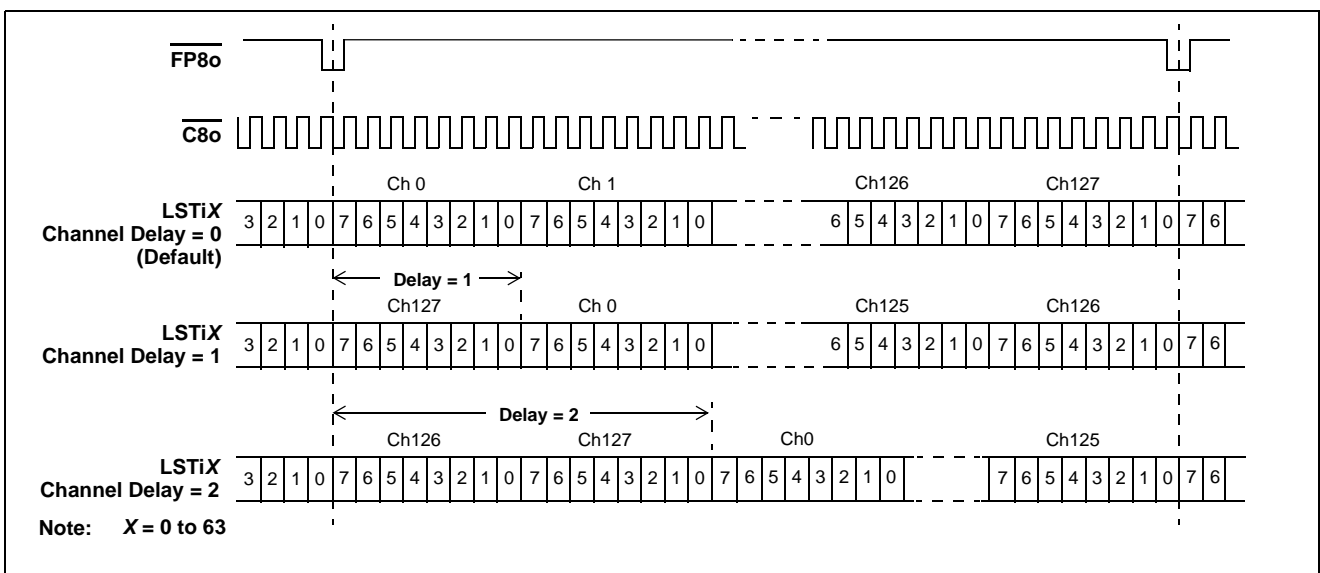

Figure 13 - Local Input Channel Delay Timing Diagram
The local input channel delay programming allows all local input streams to have a different frame boundary with respect to the local frame pulse ( $\overline{F8o}$ ). It is enabled when the LICDEN bit in the control register (CR) is high. The local input channel delay registers (LICDR0 - LICDR31) allows the users to delay the input channel from 0 to 127 channel for every local input stream. Figure 13 describes the local channel delay timing with different delay values.